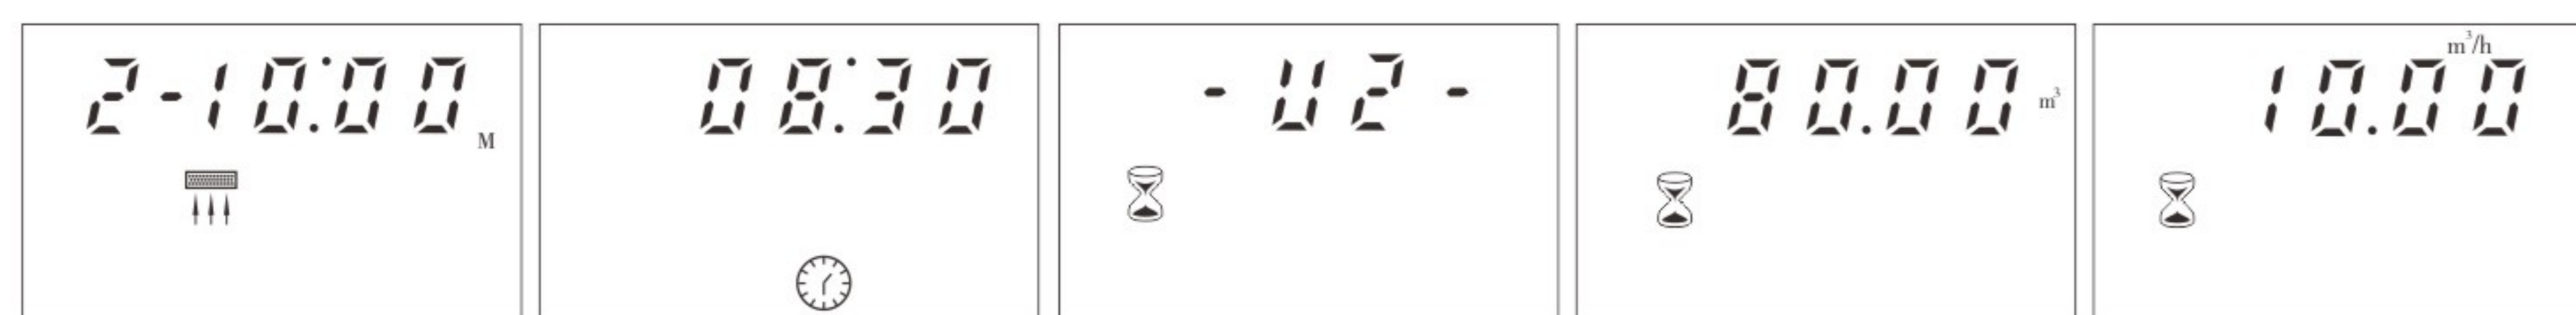

Figure 3A Figure 3B Figure 3C Figure 3D Figure 3E
- When tank U2 in Service while tank U1 in Backwash: Figure 3A/3B/3C/3D/3E display every 5 seconds in cycle.